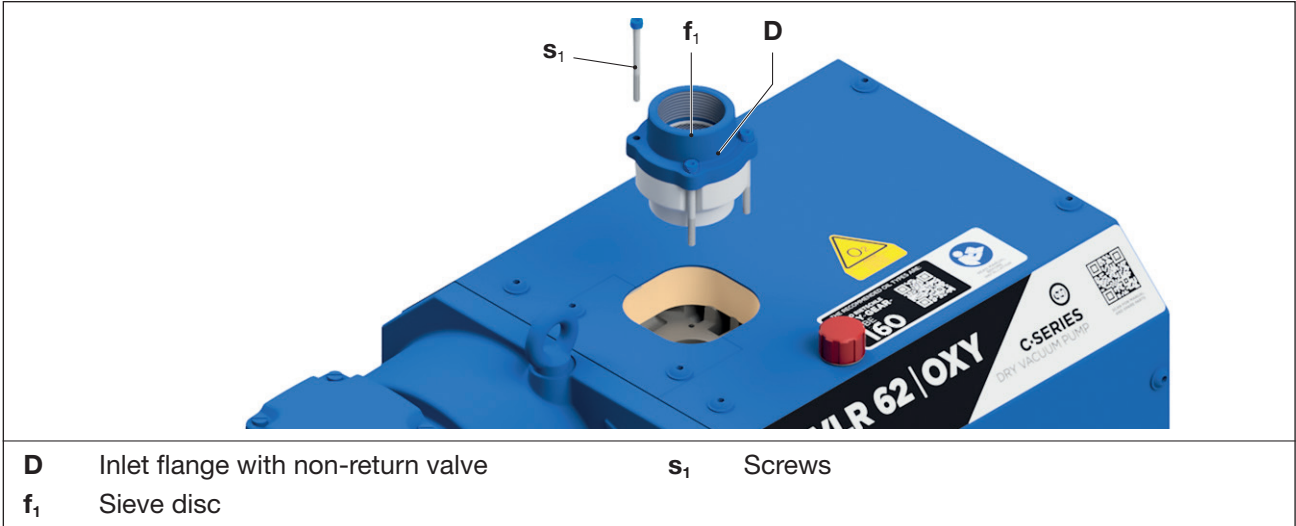

Fig. 6 Inlet flange with sieve disc
- b) Take off the inlet flange (Fig. 6/D) after releasing the screws (Fig. 6/s₁).
- c) Check the sieve disc (Fig. 6/f₁) and replace if necessary. Also check the non-return valve for pollution and replace if necessary.
- d) Remount the inlet flange (Fig. 6/D) and retighten the screws. Tightening torque: 5.9 Nm